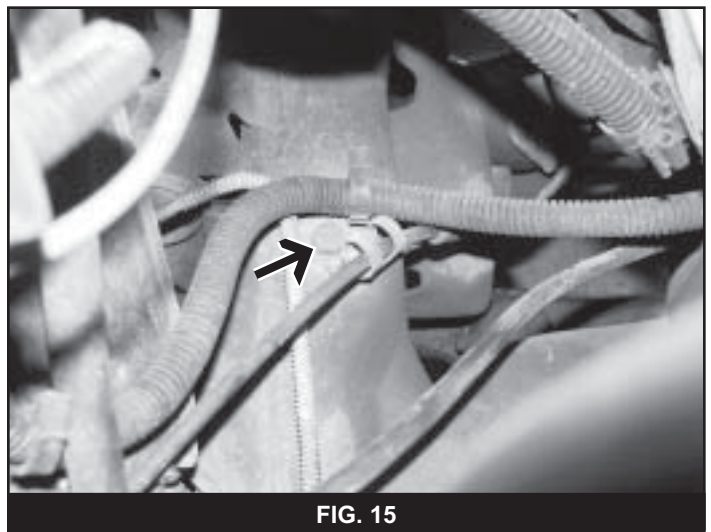

FIG. 15
25. Remove the bolt mounting the axle actuator cable clamp to the passenger's side frame rail (Fig 15).